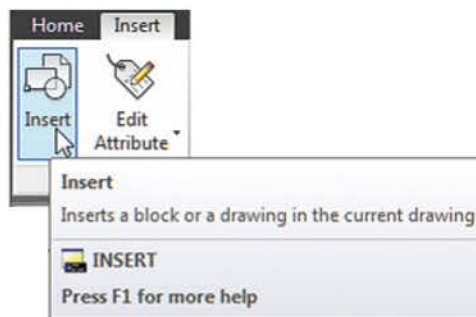
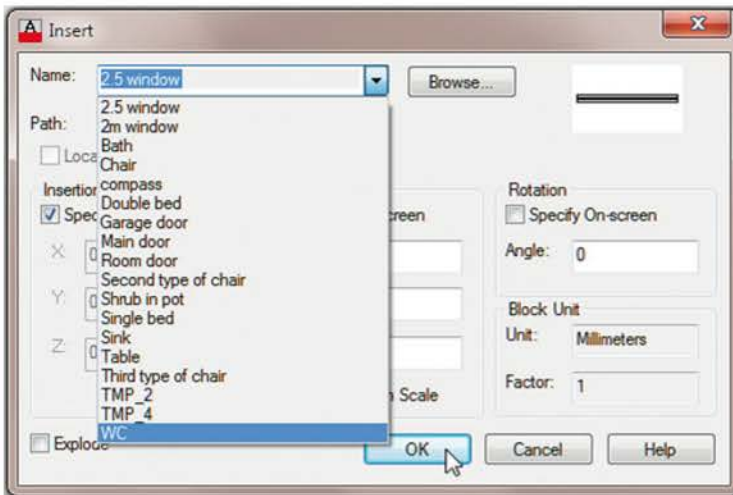

Fig. 13.6 The Insert tool icon in the Insert/Block panel
Fig. 13.7 The Insert dialog with its Name pop-up list showing all the blocks
1. *Left-click* the **Insert** tool icon in the **Insert/Block** panel (Fig. 13.6). The **Insert** dialog appears on screen (Fig. 13.7). From the **Name** popup list, select the name of the block that is to be inserted – in this example, the **2.5 window**.